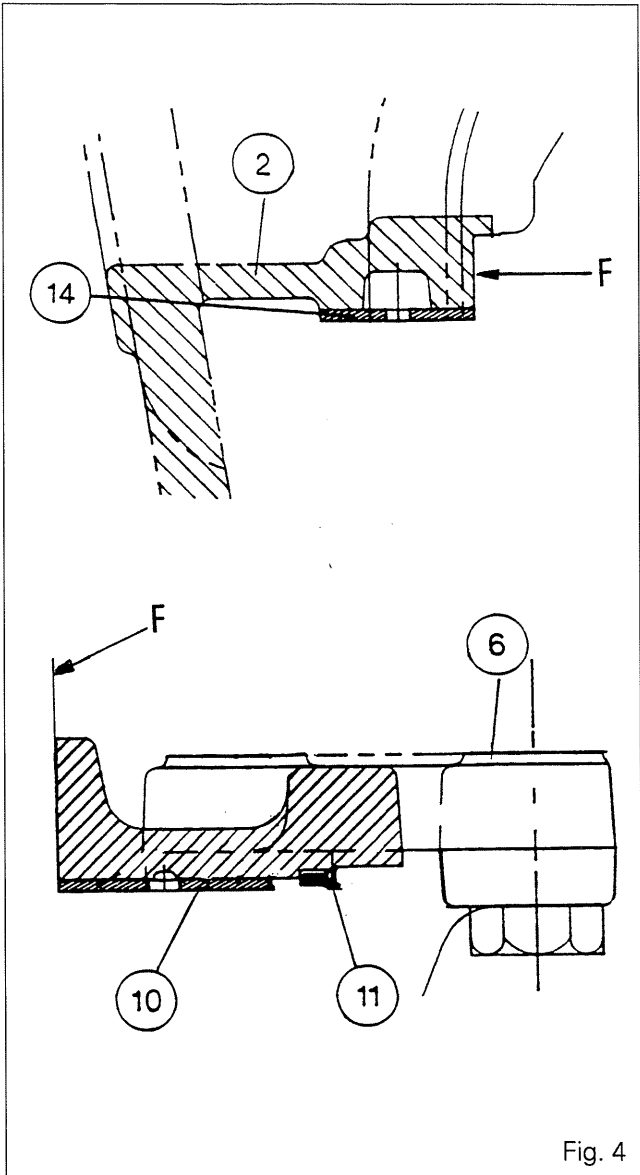
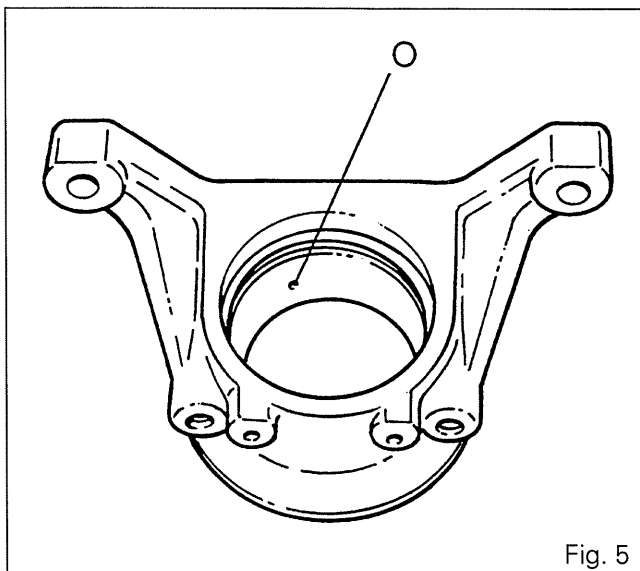
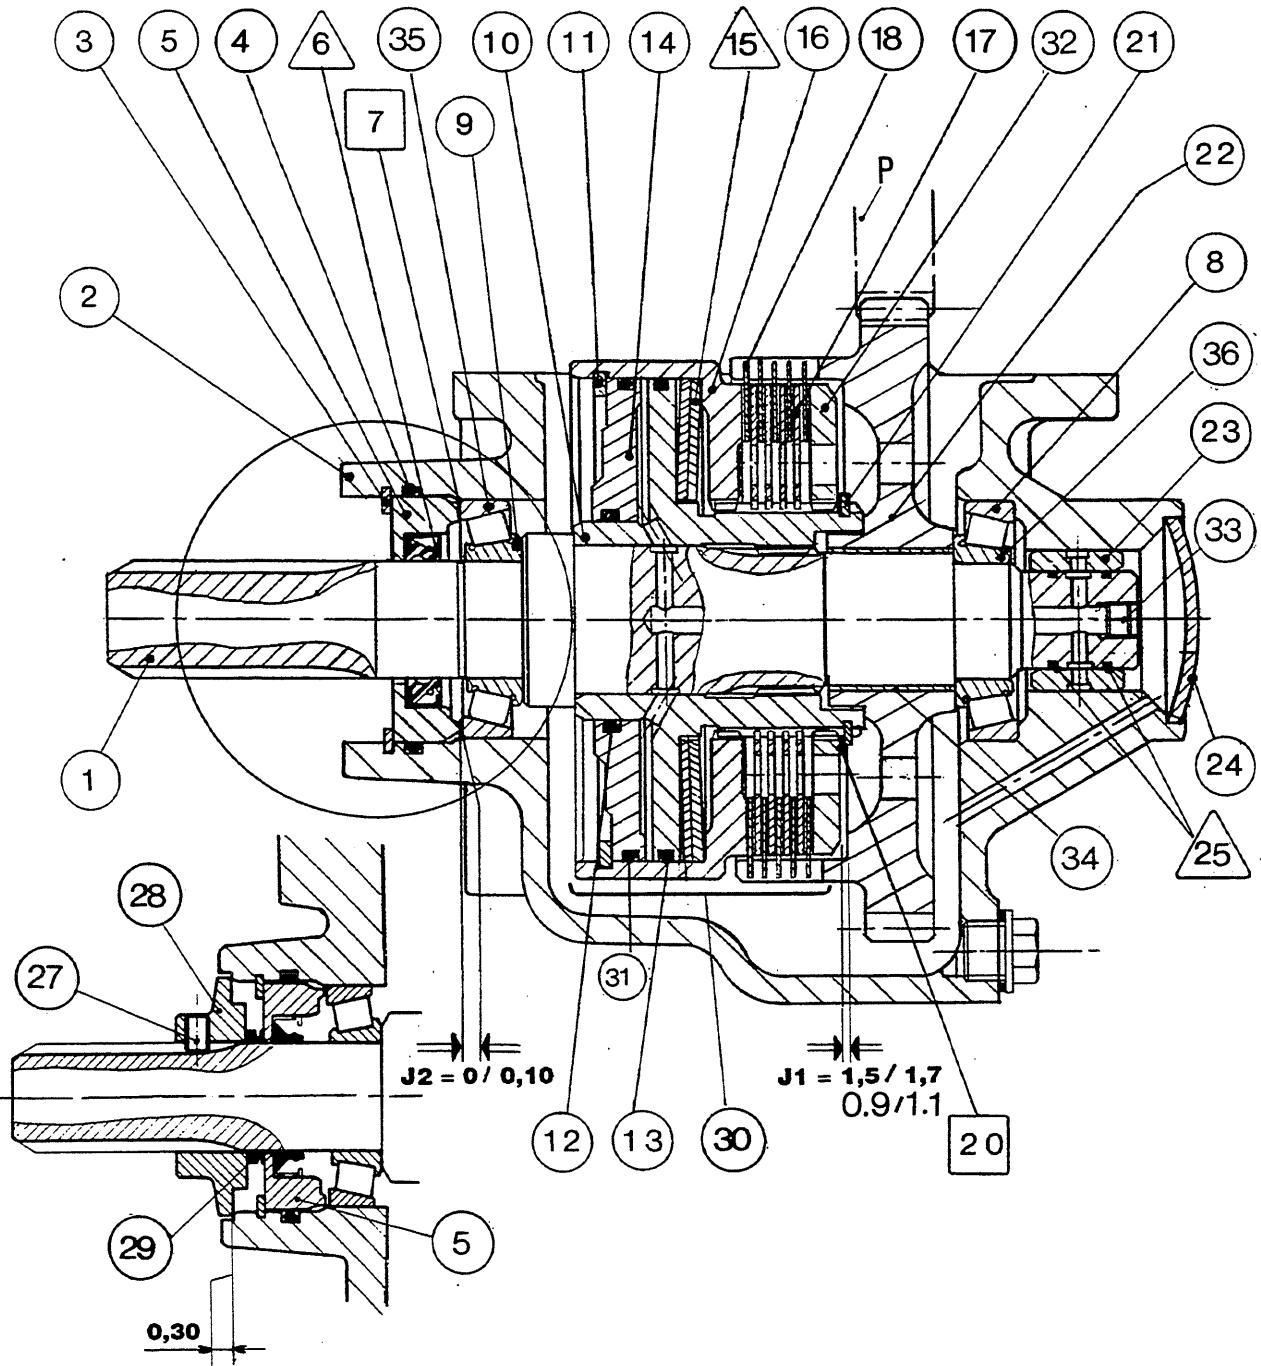

Fig. 4
Fig. 5
Fig. 1
18. Clean the parts, using a press and a suitable fixture, fit the bushes **(10)** and **(14)** in their respective supports flush with face «F» (Fig. 4) with opening «O» facing upwards (Figures 5 and 6) and aligned with the lubricating channel.
25. Position the Belleville washers /15\ in the bell (16) as per Fig. 1.
26. Lubricate and fit the O-ring (13) on the hub (10).
27. Position the hub in the bell (16) bearing against the Belleville washers.
28. According to the type of tractor, fit the discs (18), aligning the lugs, and the inner plates (17). Install the cover (32).
29. **Shimming J1 (Fig. 5)**
Using a press and a suitable fixture, apply a pressure equivalent to a load of 2,000 daN so as to fully compress the Belleville washers /15\ (Fig. 4). Fit the circlip (21). Using a set of shims, measure the clearance X between the cover (32) and the circlip. Select the shim or shims [20] in order to obtain the following clearance J1: